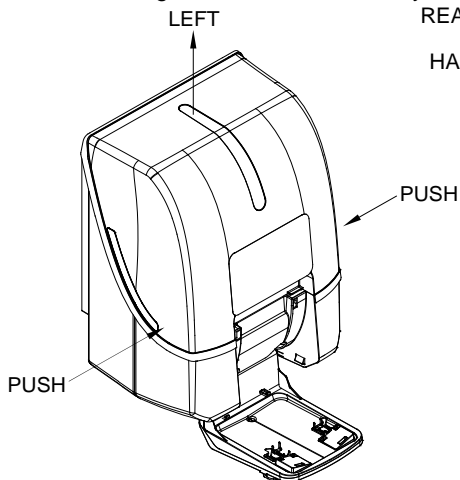

Figure 8
Step 6. Remove Lid Assembly (Ref Figure 8)